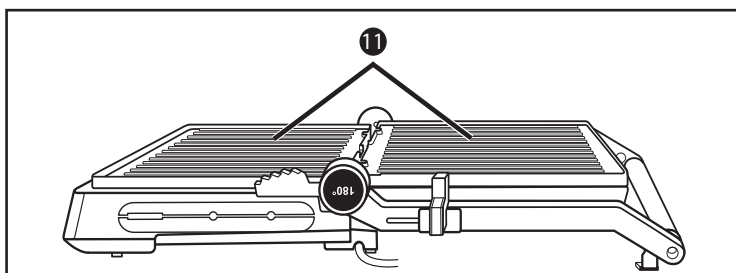

Fig. 2
- 3) The hotplates **11** are now positioned next to each other and can be used as a table grill (fig. 2).